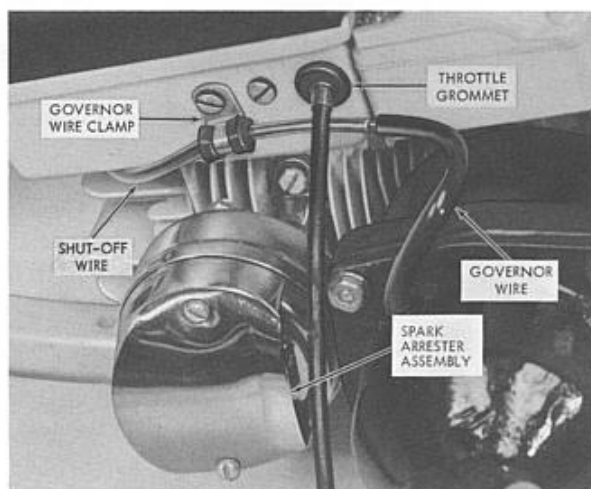

Figure 11. Mounting Special Grommet
9. Thread the loose end of the Shut-off Wire through the Governor Wire Clamp as shown in Figure 11. Align the screw holes on the Clamp with the screw hole (small hole on left) drilled in the side of the airbox. Put the Bellcrank Bracket inside the airbox and align its screw holes with the two small airbox screw holes. Secure the Governor Wire Clamp (on outside of airbox) and the Bellcrank Bracket (on inside of airbox) with two 10-24 x 3/8-inch long screws (P/N 100415) and two 10-24 hex nuts (P/N 101191).
10. Insert the loose end of the Governor Wire (leading from the Bearing housing on the drive unit) into the Shut-off Wire connection as shown in Figure 11.
11. Feed the end of the control cable through the Special Grommet (P/N 57436). Insert the end of the control cable through the 1/2-inch hole drilled in the airbox and hook the cable between the two prongs on the Bellcrank. Slide the Special Grommet toward the end of the control cable and mount the Grommet on the 1/2-inch hole as shown in Figure 11.